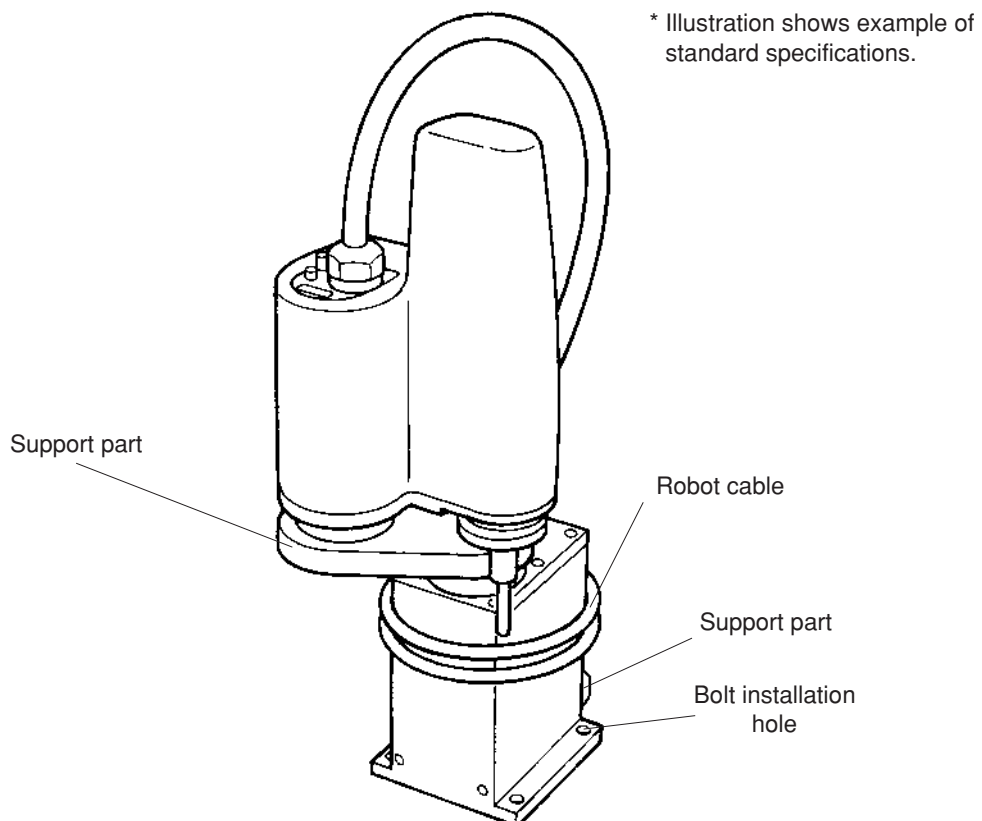

Fig. 3-4
- 1) Fold the X and Y axis arms as shown in Fig. 3-4, and wind the robot cable around the upper part of the pedestal, then fasten the robot cable with adhesive tape so as not to cover the bolt installation holes.